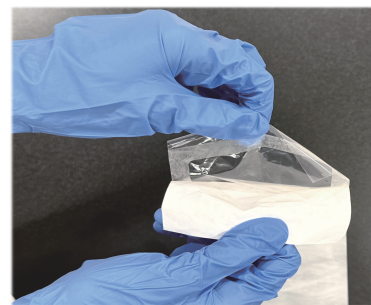

Figure 1. Open the sterilized bag
2. Open the sterilized bag (see Figure 1) and carefully take out the device.